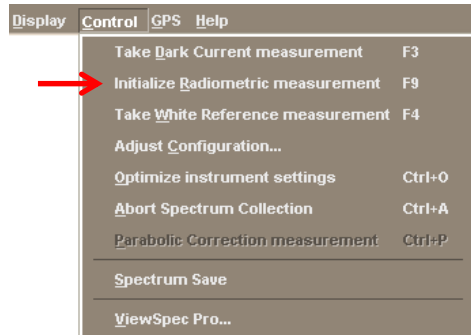

Figure 3-23: Select Initialize Radiometric Measurement
- Under the *Control* pull-down menu, select “Initialize Radiometric measurement” (Figure 3-23).